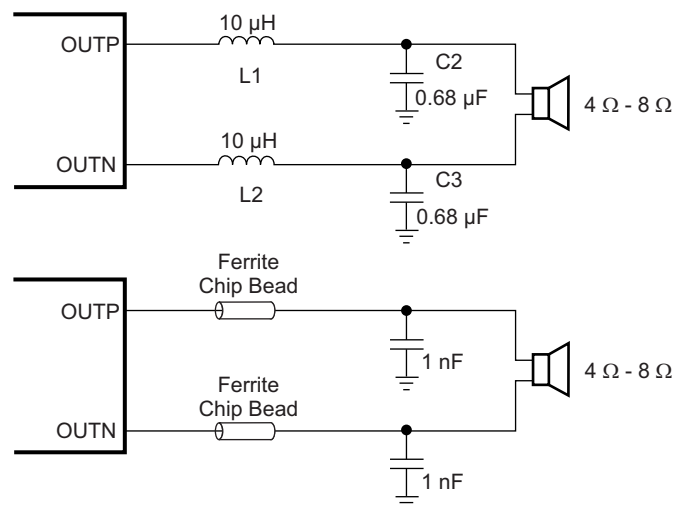

图 33. TPA3128D2 Output Filters
- **Output filter** — The ferrite EMI filter (see 图 33) should be placed as close to the output terminals as possible for the best EMI performance. The LC filter should be placed close to the outputs. The capacitors used in both the ferrite and LC filters should be grounded.